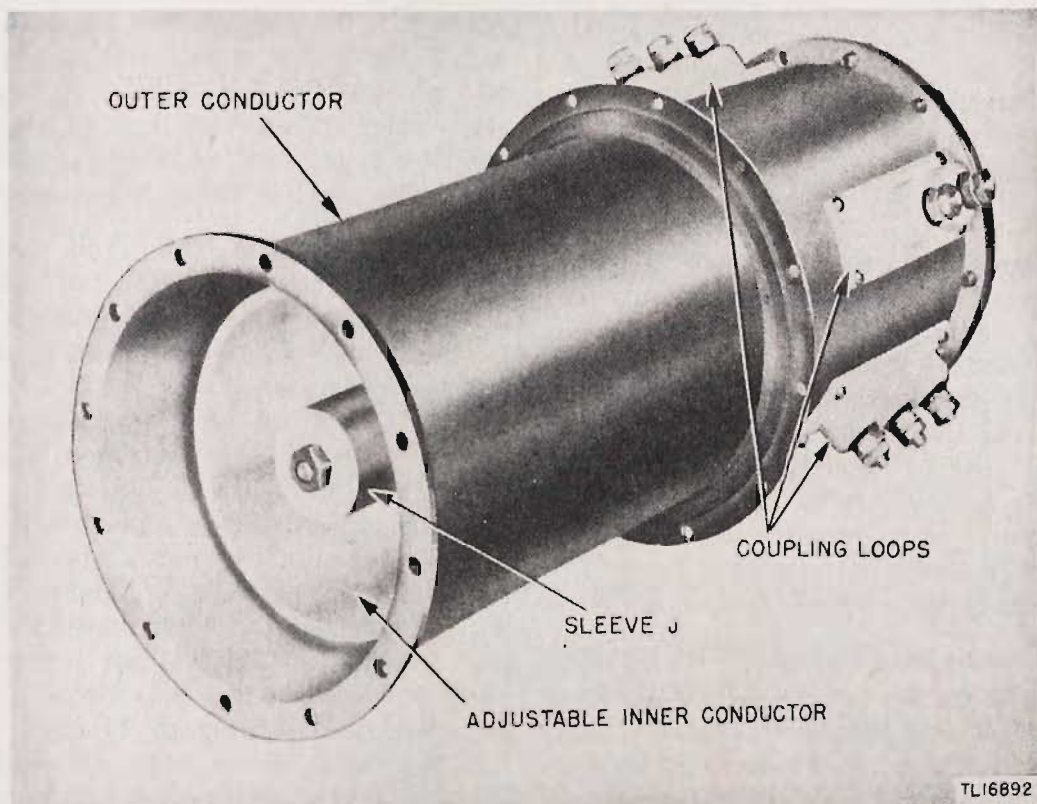

Figure 78. Radio Transmitter T-30/TRC-8 (XC-3), frequency control line.
a. General. (1) The application of transmission lines in frequency control circuits of high-frequency oscillators provides stability of frequency comparable with that of well designed crystal-controlled oscillators at lower frequencies. Such lines have the advantages of high Q , low losses, and efficient operation at frequencies above those readily obtainable with ordinary coil and capacitor tank circuits. The high Q provides good control of frequency stability, which is further improved by temperature compensation of the line.
(2) In the circuit used in this transmitter, the high Q temperature-compensated tank circuit L205 is made in the form of concentric transmission lines (fig. 78). The equivalent circuit is shown in figure 79(1). Coupling loop L210 is shown in figure 79(3). The remaining coupling loops are indicated in figure 79(2).